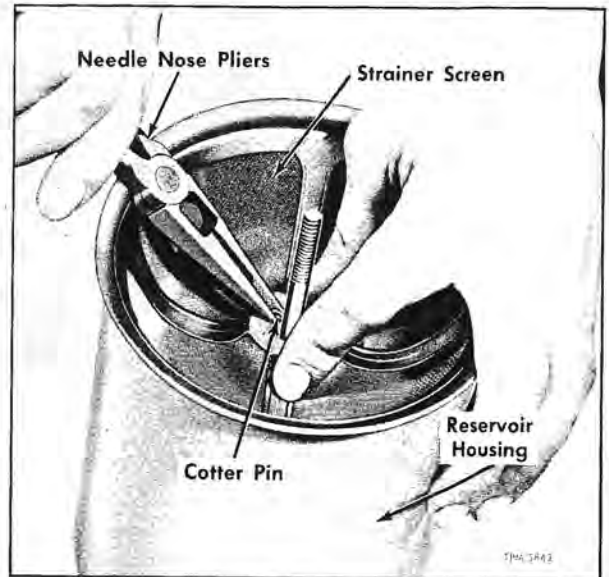

Figure 31—Method of Replacing Fluid Reservoir Screen and Cotter Pin
1. Remove nut (1) with gasket (2) then lift cover (3) from reservoir housing (8). If necessary, remove cover O-ring seal (4) from cover.
2. Using thin-nose pliers as shown in figure 31, remove small cotter pin (6) which retains strainer screen (5) in housing. CAUTION: Do not poke hole in screen with pliers when cotter pin releases from thru bolt. Lift screen from housing.
3. Remove spring (7), by-pass filter assembly (9) and filter element (11) from reservoir housing. Discard element.
4. Disassemble by-pass filter assembly (9) by removing three filter screws (10) and nuts. Disassemble filter assembly completely.